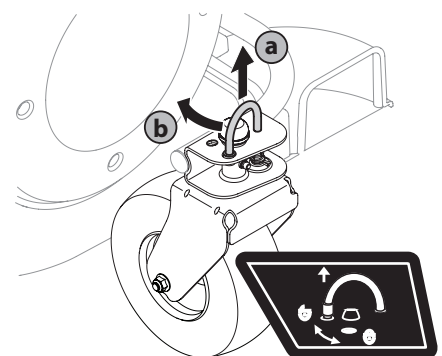

Figure 7
1. To lock the caster, lift the lock pin, see (a) in Figure 7, and rotate it rearward, releasing it into the larger hole, see (b) in Figure 7.